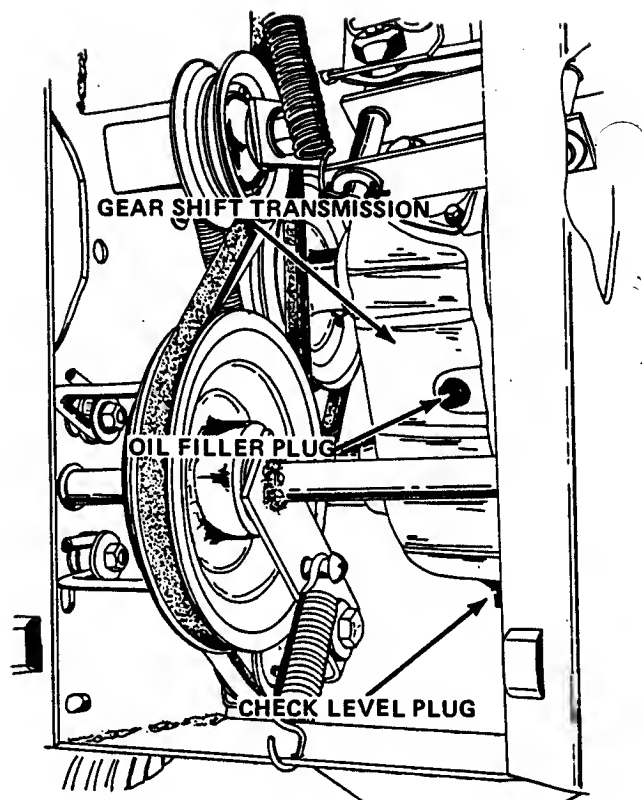

Figure 45
3. Remove check plug, Figure 45. Oil should seep out of the check plug hole. If the level is too low, remove the filler